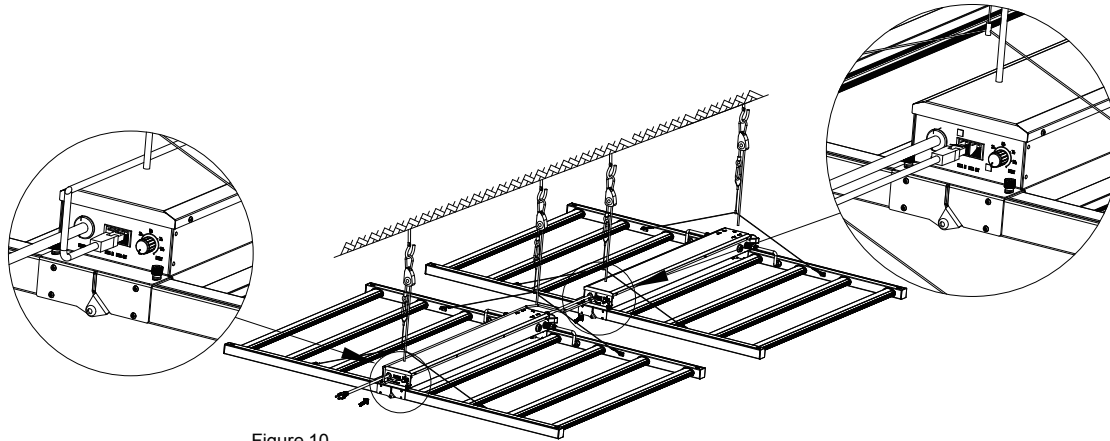

Figure 10
- 10: If the parallel lights need dimming function, pls connect the network cable in the accessory to the RJ45 network cable connector of the driver box. (Figure 10)